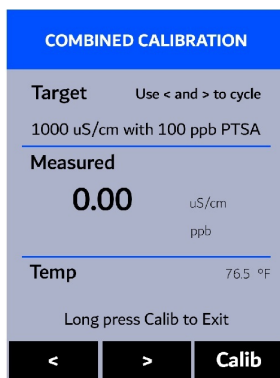

Figure 13.
4. Press **OK** to launch the **COMBINED CALIBRATION** screen (Figure 13).